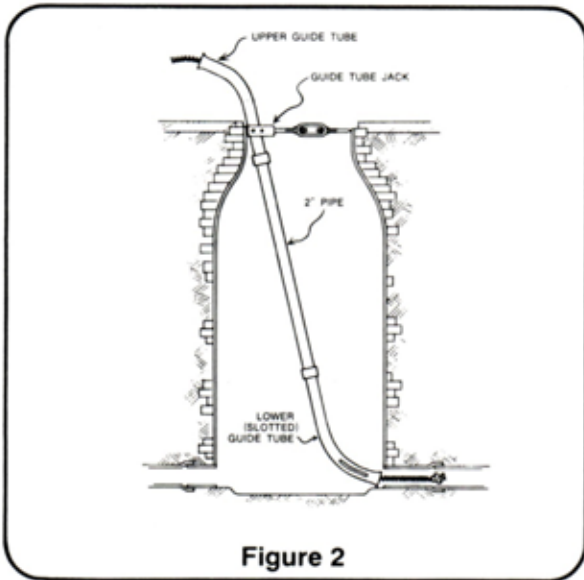

Figure 2
- When cleaning a pipeline with an opening that cannot be easily approached by the power unit, such as in a trench or manhole, A GUIDE TUBE should be used to protect the cable from kinks or entanglements with objects outside the pipeline. When using the GUIDE TUBE in a manhole, it should be set up with the guide tube jack holding it firmly at the top of the manhole (Figure 2). Before placing the GUIDE TUBE in the manhole, be sure to thread the cable through the TUBE and attach the cleaning tool.